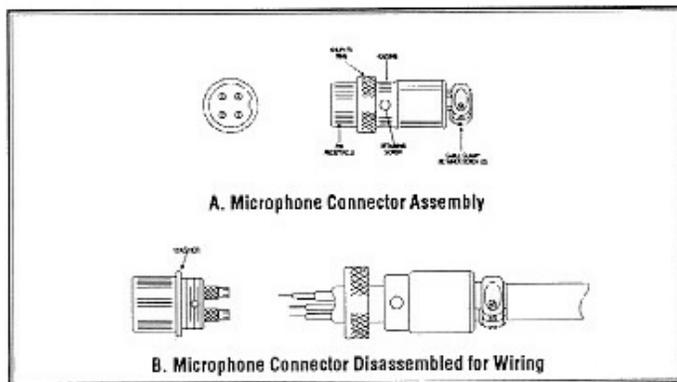
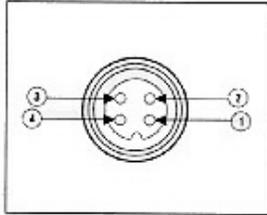

Figure 4.2 Microphone Plug Wiring
Figure 4.3 Microphone Plug Pin numbers Viewed from Rear of Pin Receptacle.
- (1) Remove the retaining screw.
- (2) Unscrew the housing from the pin receptacle body.
- (3) Loosen the two cable clamp retainer screws.
(4) Feed the microphone cable through the housing, knurled ring and washer as shown in Figure 4.2 (page 13).
(5) The wires must now be soldered to the pins as indicated in Figure 4.2 (page 13). If a vise or clamping tool is available it should be used to hold the pin receptacle body during the soldering operation, so that both hands are free to perform the soldering. If a vise or clamping tool is not available, the pin receptacle body can be held in a stationary position by inserting it into the microphone jack of the front panel. The numbers of the pins of the microphone plug are shown in Figure 4.3, as viewed from the back of the plug. Before soldering the wire to the pins, pre-tin the wire receptacle of each pin of the plug.